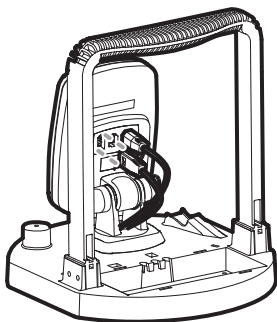

Figure 38
3. Connect the cables to the control head. The slots for the plugs are keyed to prevent reverse installation, and insertion should be easy. Do not force the connectors into the control head. (Figure 38)